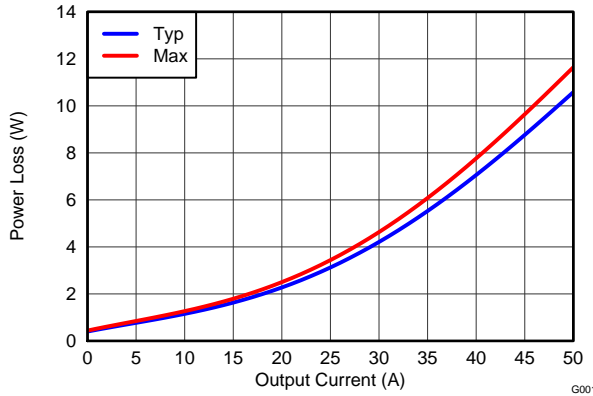
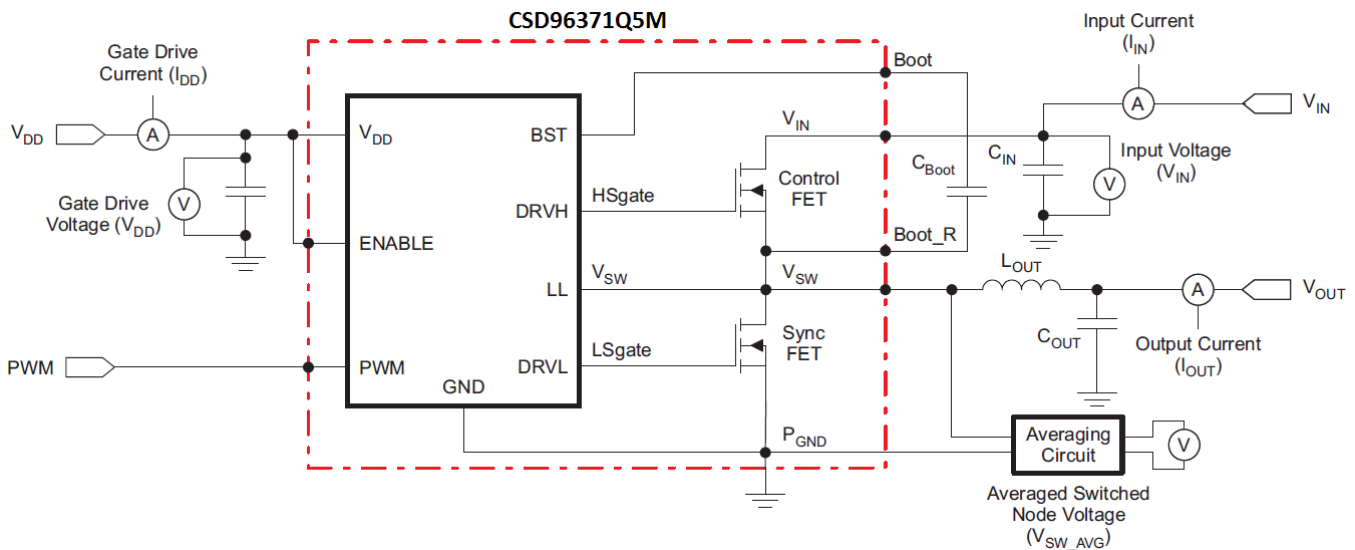

Figure 7. Power Loss vs Output Current
Figure 18. Power Loss Test Circuit
MOSFET centric parameters such as  $R_{DS(ON)}$  and  $Q_{gd}$  are primarily needed by engineers to estimate the loss generated by the devices. In an effort to simplify the design process for engineers, Texas Instruments has provided measured power loss performance curves. Figure 7 plots the power loss of the CSD96371Q5M as a function of load current. This curve is measured by configuring and running the CSD96371Q5M as it would be in the final application (see Figure 18). The measured power loss is the CSD96371Q5M device power loss which consists of both input conversion loss and gate drive loss. Equation 1 is used to generate the power loss curve.
The power loss curve in Figure 7 is measured at the maximum recommended junction temperature of  $T_J = 125^\circ\text{C}$  under isothermal test conditions.
- Power Loss at 25A = 3.1W (Figure 7)